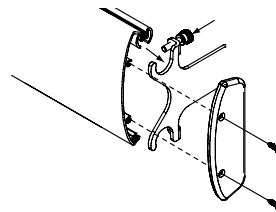

Figure 11
- ⑥ Install end covers onto fascia ends using provided screws. Attach fascia to brackets by placing top lip over bracket and bottom extrusion into bottom of bracket and tightening the thumbscrews to hold the fascia in place (see Fig. 11).